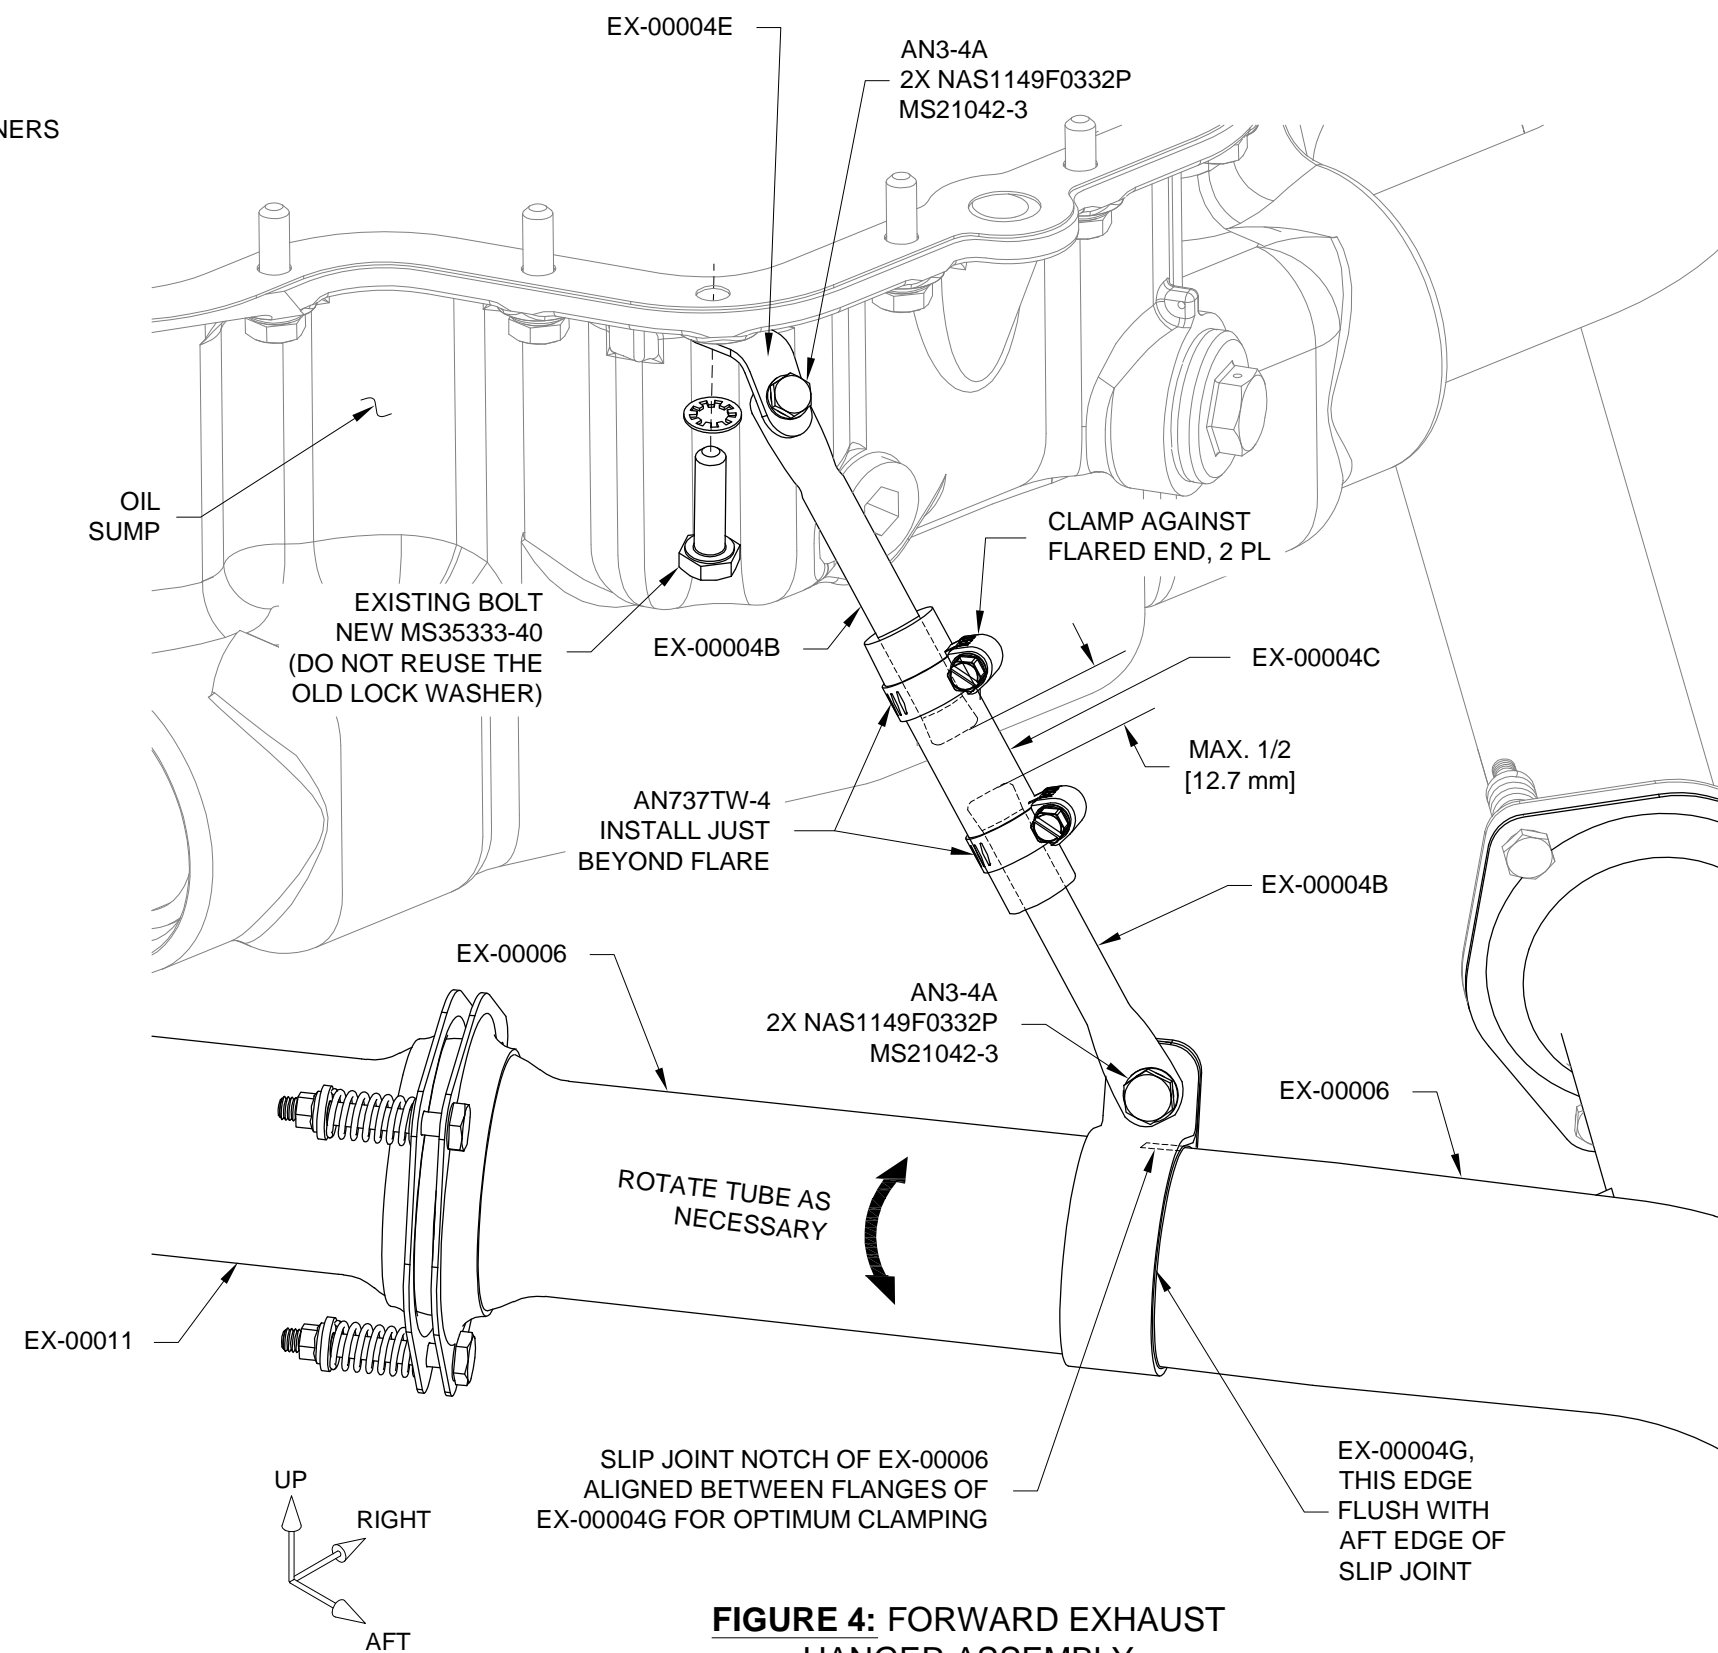

FIGURE 4: FORWARD EXHAUST HANGER ASSEMBLY
Step 5: Install the Forward Exhaust Hanger Assembly as shown in Figure 4.